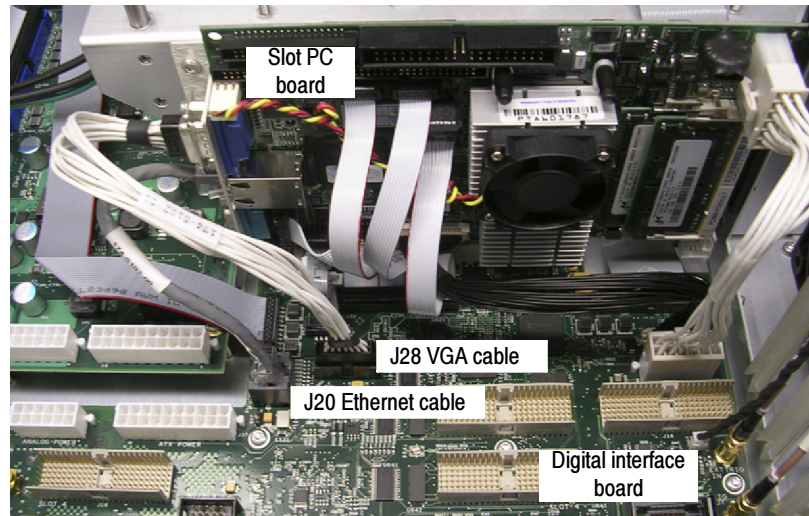

Figure 4: Ethernet and VGA cable connection locations
6. Disconnect these cables from the Digital Interface board. See Figures 4 and 5: